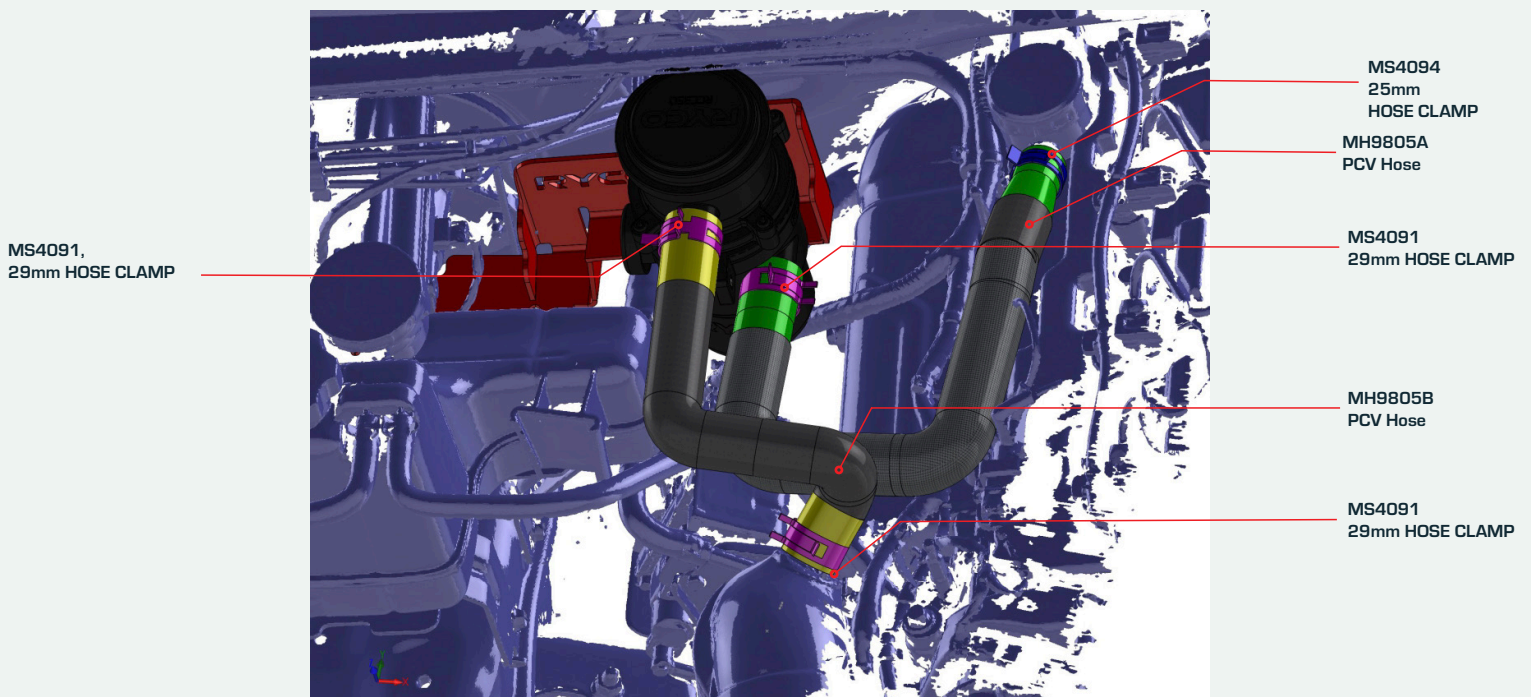

FIGURE 3B
- 5 Starting with the MH9805A PCV hose, install the small diameter end on to the engine PCV port and tighten with the MS4094 hose clamp as shown in FIG. 3B.
- 6 Install the other end of the MH9805A PCV hose on to the lower, inlet port, of the RCC351 Catch Can and tighten with the MS4091 hose clamp as shown in FIG. 3B.
- 7 Install the larger diameter end of the MH9805B hose on to the upper, outlet port, of the RCC351 Cath Can and tighten with a MS4091 hose clamp. Install the other end of the MH9805B PCV hose on to the air intake PCV port and tighten with a MS4091 hose clamp as shown in FIG. 3B.